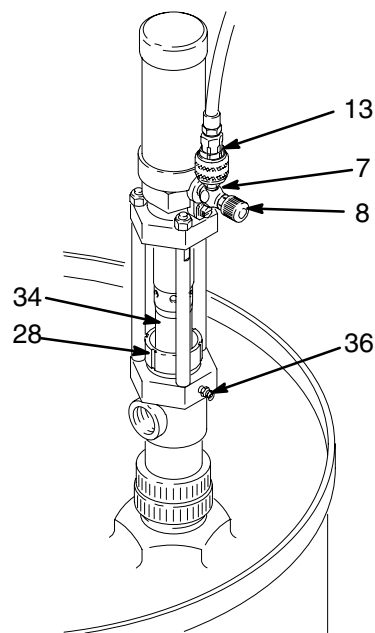
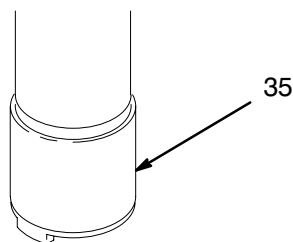

Fig 4 05219B
Fig 5 03765
For shutdown, disconnect the air line coupler (13). See Fig 4.
1. Insert the 14.6 oz. cartridge (16) of IPL in a standard grease gun.
2. At shutdown each day, stop the pump with the rod (34) in the down position, then lubricate the packings liberally with IPL through the grease fitting (36). Proper lubrication prevents pump sticking. See Fig 4.
3. Wipe off the extra, contaminated IPL from around the top of the packing nut (28) and displacement rod (34).
If the air supply is dry, periodically oil the air motor. For manual lubrication, turn off the air, put about 15 drops of lightweight motor oil in the air inlet (7), reconnect the hose, and turn on the air. See Fig 4.
1. Open the air valve (8) or regulator to start the pump. Allow the pump to cycle slowly for at least 5 minutes.
4. Push up on the intake valve (35) check plate to drain the lower part of the pump. See Fig 5.
Periodically, check the tightness of the packing nut (28). It should be tight enough to prevent leakage; no tighter. See Fig. 4. If the leakage cannot be stopped, change the packings to prevent exposure to the fluid being pumped.